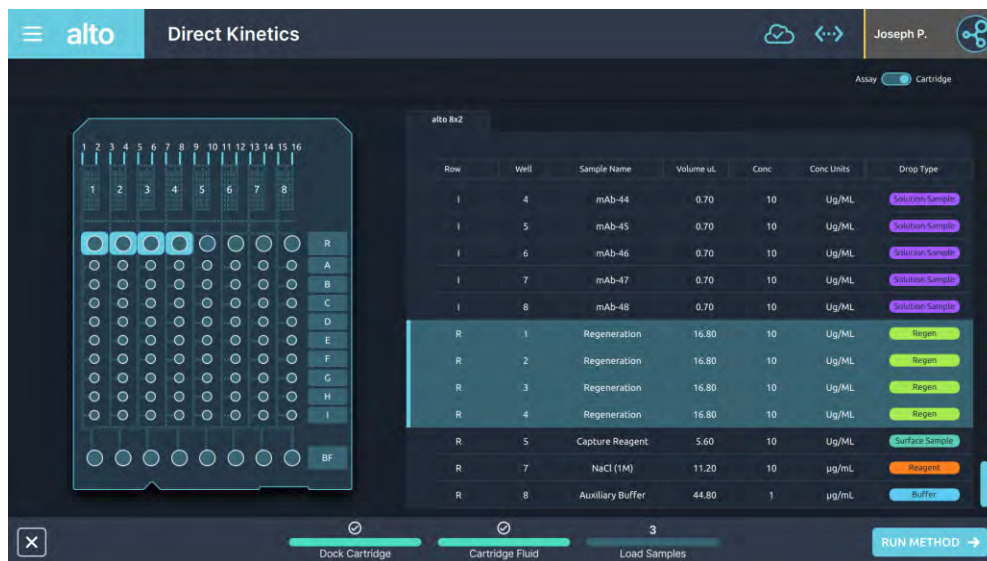

Figure 5.31: The table will highlight samples being used in the wells and/or rows that are selected on the cartridge diagram.
- You will now be directed to load your samples into the cartridge. Before loading your samples, review your sample location and information on the software screen. To do this, click on the interactive cartridge to ensure that the sample details are precise (Figure 5.31). You can select the different wells using the touch screen. For example, if you can click on the R1-R4 well (little green well on the cartridge in Figure 5.31 that is highlighted in blue). Wells on the cartridge may be selected, and corresponding samples for selected wells will be highlighted in the table. Individual wells and rows may be selected by the user as well. The scroll bar of the sample table can be used to see all sample details.